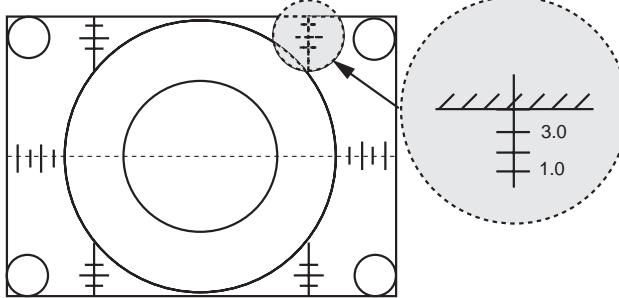

Figure 30. Vertical Size Adjustment
5. Adjust DAC (VSIZE) until vertical size is  $3.5 \pm 0.1$  on top and bottom lines. (See Figure 30)